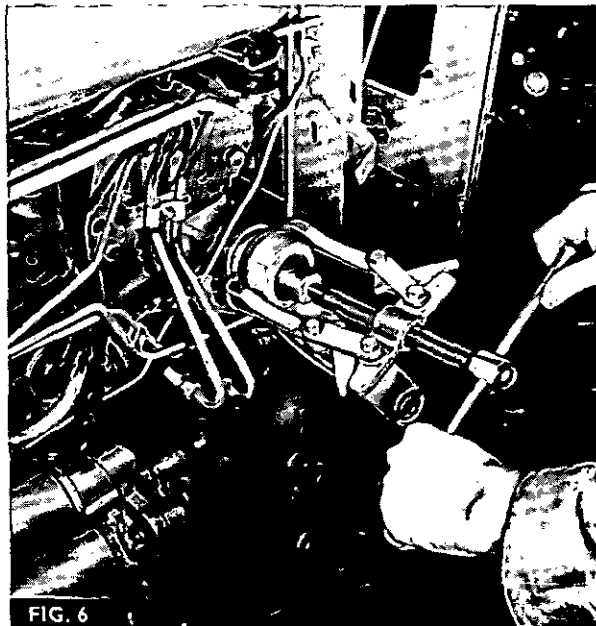

FIG. 6
26. Fig. 6. Fit special tool No. 6312A as shown and pull off the drop arm.